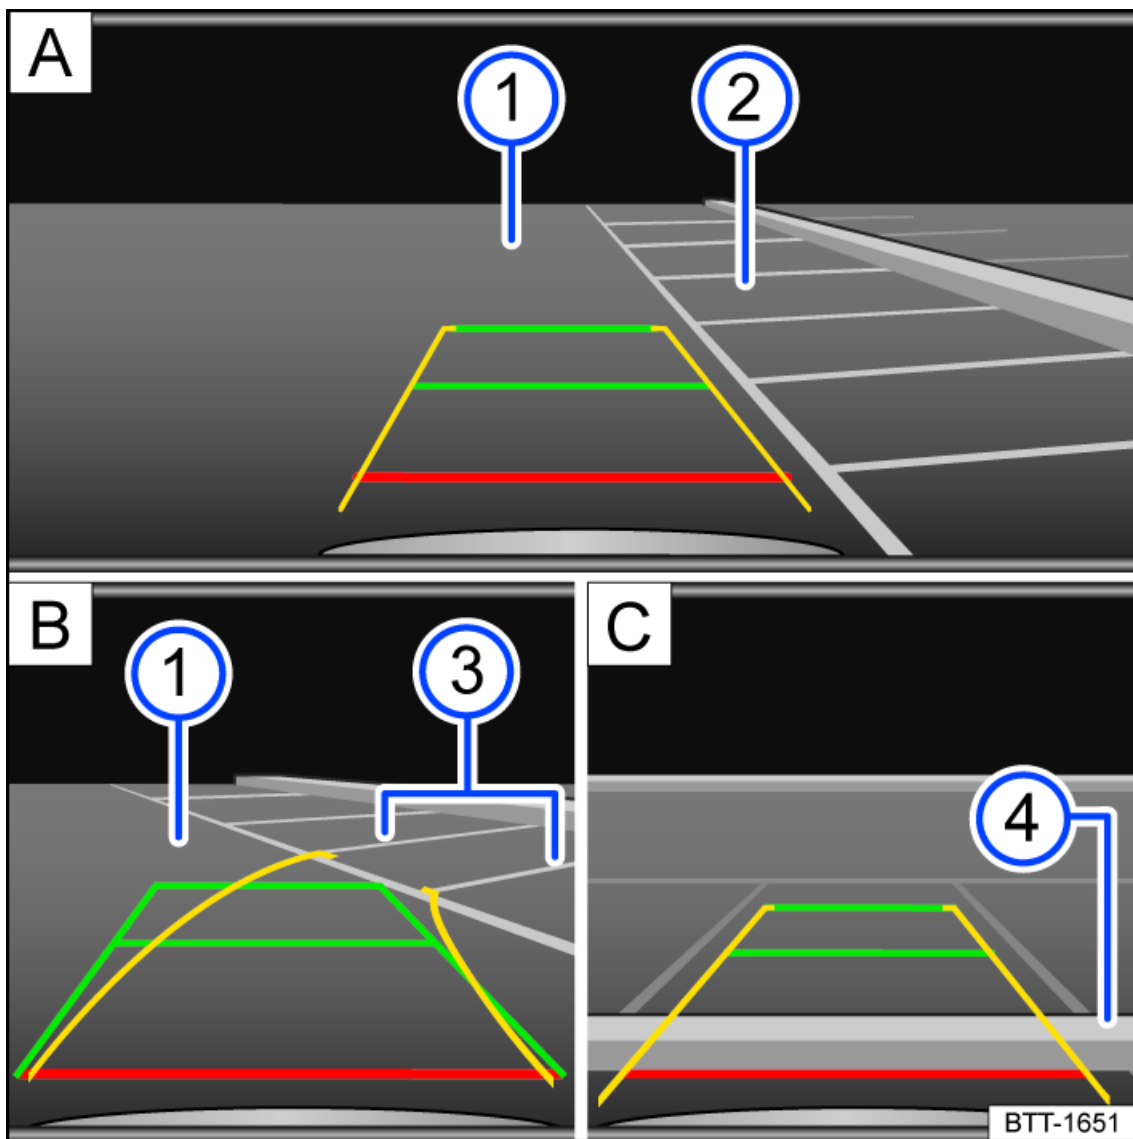

Fig. 152 Infotainment system: Parking perpendicular to the road.
① Road surface.
② Parking space.
③ Side boundary of the parking space.
④ Rear boundary of the parking space.
3. Position your vehicle in front of the parking space *fig. 152 A* ②.
4. Steer so that the yellow lines lead into the parking space. The green and yellow lines must align with the side boundary lines *fig. 152 B* ③.
5. Stop when the red line reaches the rear boundary *fig. 152 C* ④.